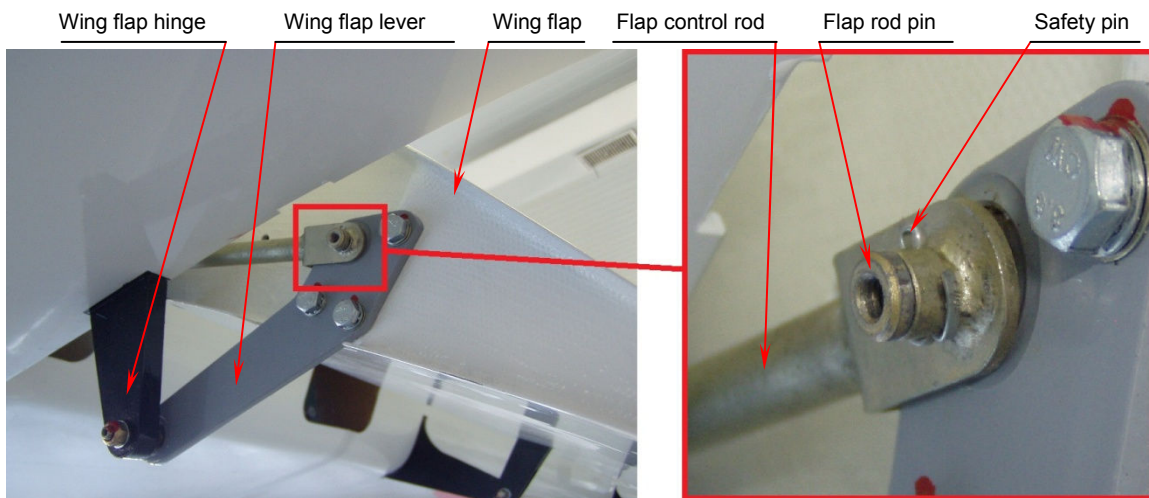

Fig. 4 Wing flap control connection
5. Connect the wing flap lever with the wing flap hinge. Connect the flap control rod to the wing flap lever using the wing flap rod pin. During this procedure the flap control lever in the cockpit shall be set to the rearmost position and the wing flap shall be deflected to maximum down position (Fig. 4).
4. Disconnect the flap control rod from wing flap lever. Disconnect the wing flap lever from the wing flap hinge (Fig. 4).